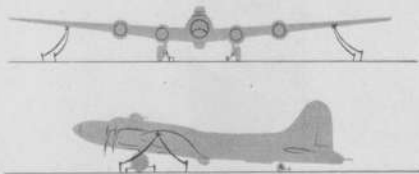

Figure 3 - Mooring Provisions Diagram
c. Mooring Instructions. - Lines may be attached at towing points and also at the rope well located in the bottom surface of each wing. The rope wells are designed for a 10,000-pound load acting downward. Moor the airplane with the tail into the wind, set the parking brakes and lock the rudder and elevators. When attaching the mooring lines at the rope wells in the wings, allow approximately 16 inches slack in the line. This will prevent damage to the structure or loss of mooring control in case a tire goes flat with resultant elevation of the opposite wing. Rudder and elevator locks will withstand gust loads from any direction up to 60 mph wind velocity. (See figure 3.)